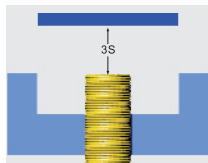

Fig3
- There should be no metallic object within $3S$ of the sensing face. (Fig.3) Notice: S- Sensing range.